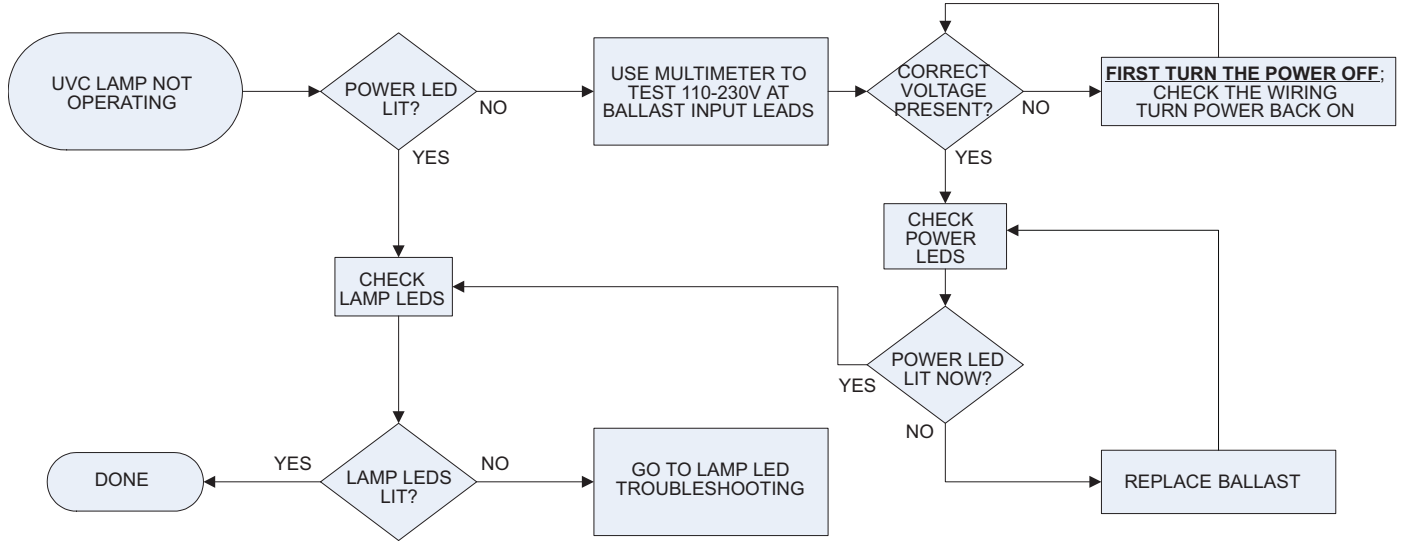
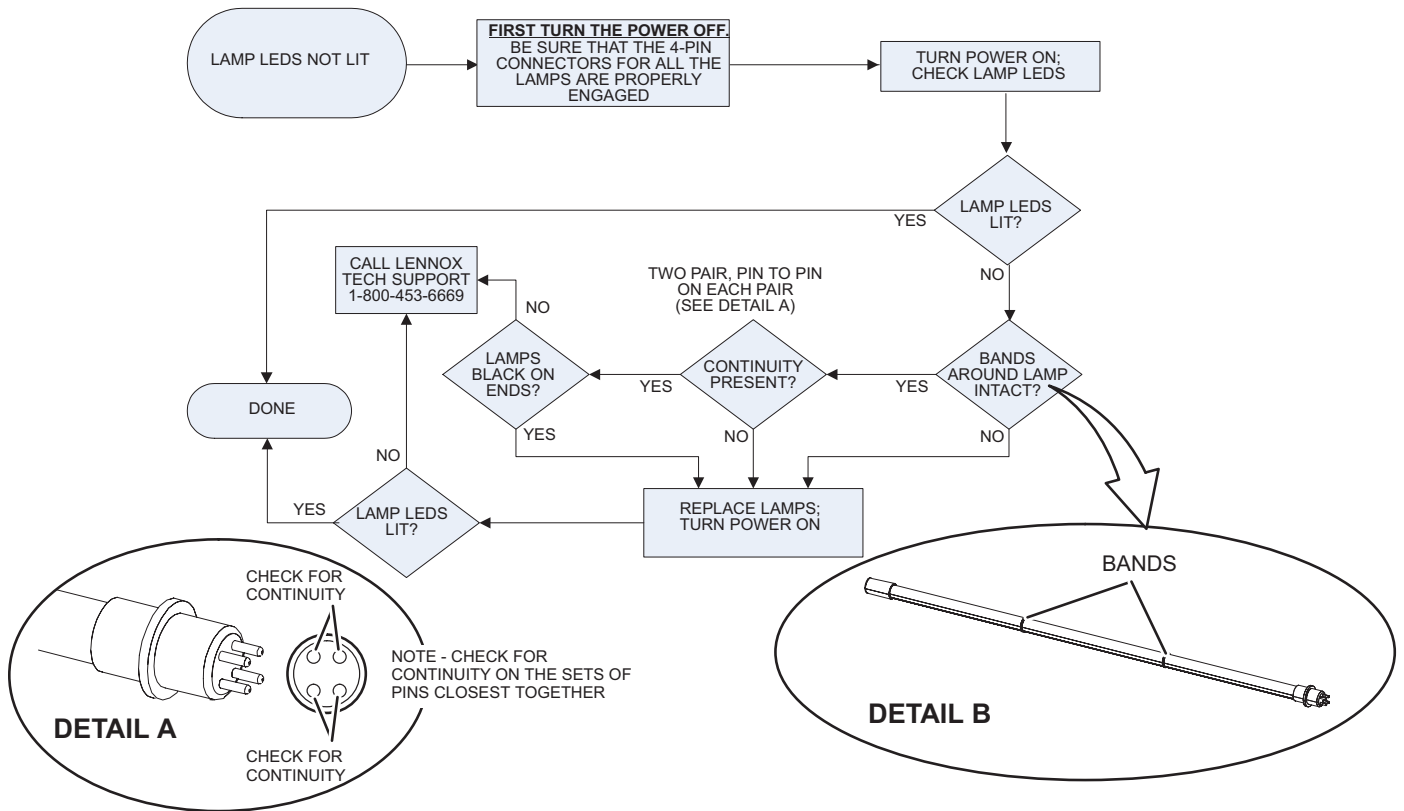

FIGURE 37
FIGURE 38
- 2 - Ohm-check across the lamp pins to check for continuity of lamp filaments (see FIGURE 38).
Troubleshooting charts are provided to aid in determining the cause of any problems encountered (FIGURE 37 and FIGURE 38).
When field installing optional kits and accessories, the Unit Controller must be configured to identify the option before it will function. Refer to FIGURE 37 and FIGURE 38 to determine whether the Unit Controller configuration I.D. must change. To configure the option, use RTU MENU > SETUP > INSTALL menu path. Press NEXT until CONFIGURATION ID 1 or 2 appears depending on the option installed. Change the appropriate character in the configuration I.D. For example, when an economizer is installed using a single enthalpy sensor, change configuration I.D. 1, the second character, to "S".